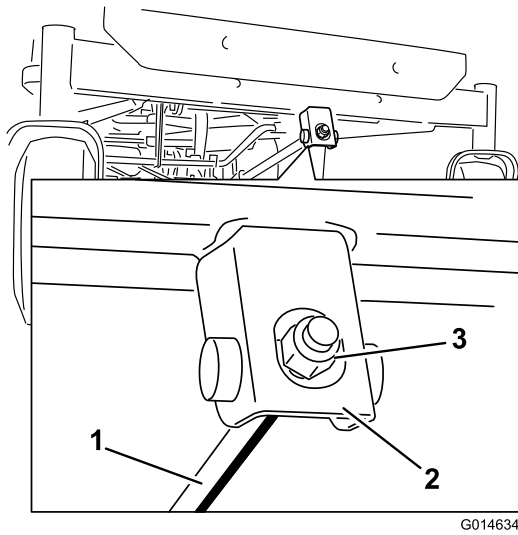

Figure 60
- A. Rotate the adjustment nut in the front of the mower (Figure 60).